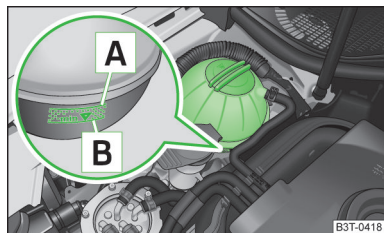

Fig. 164
When refilling, only use the same antifreeze identified on the coolant expansion vessel » Fig. 164 on page 188.
- Do not fill the coolant above the mark **A** » Fig. 164 on page 188.
The coolant expansion reservoir is located in the engine compartment » Fig. 164.
Image description » Fig. 164
- Check the level of coolant in the coolant expansion bottle. » Fig. 164.
If the engine is warm, the test result may be inaccurate. The level can also be above the mark **A** » Fig. 164.